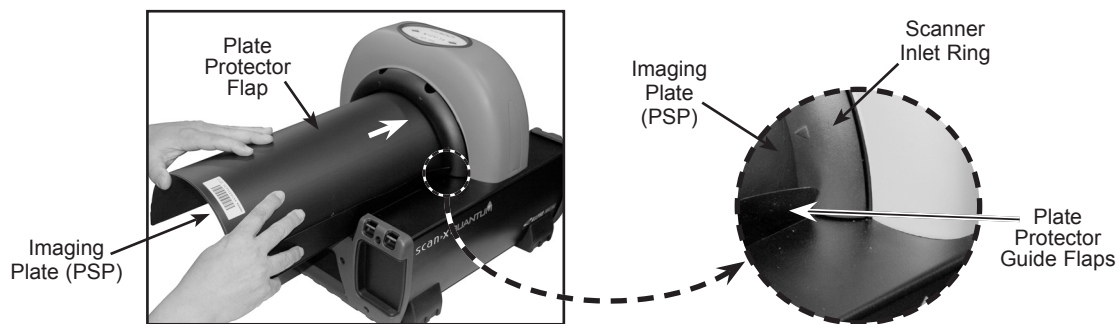

Figure 10. Feeding an Imaging Plate
3. As shown by Figure 10 position the Plate Protector containing the PSP against the curved inlet, surface and hold it flush against the scanner inlet. A Plate Protector containing an exposed PSP narrower than 14 inches may be centered on the scanner inlet, making sure that it is aligned.